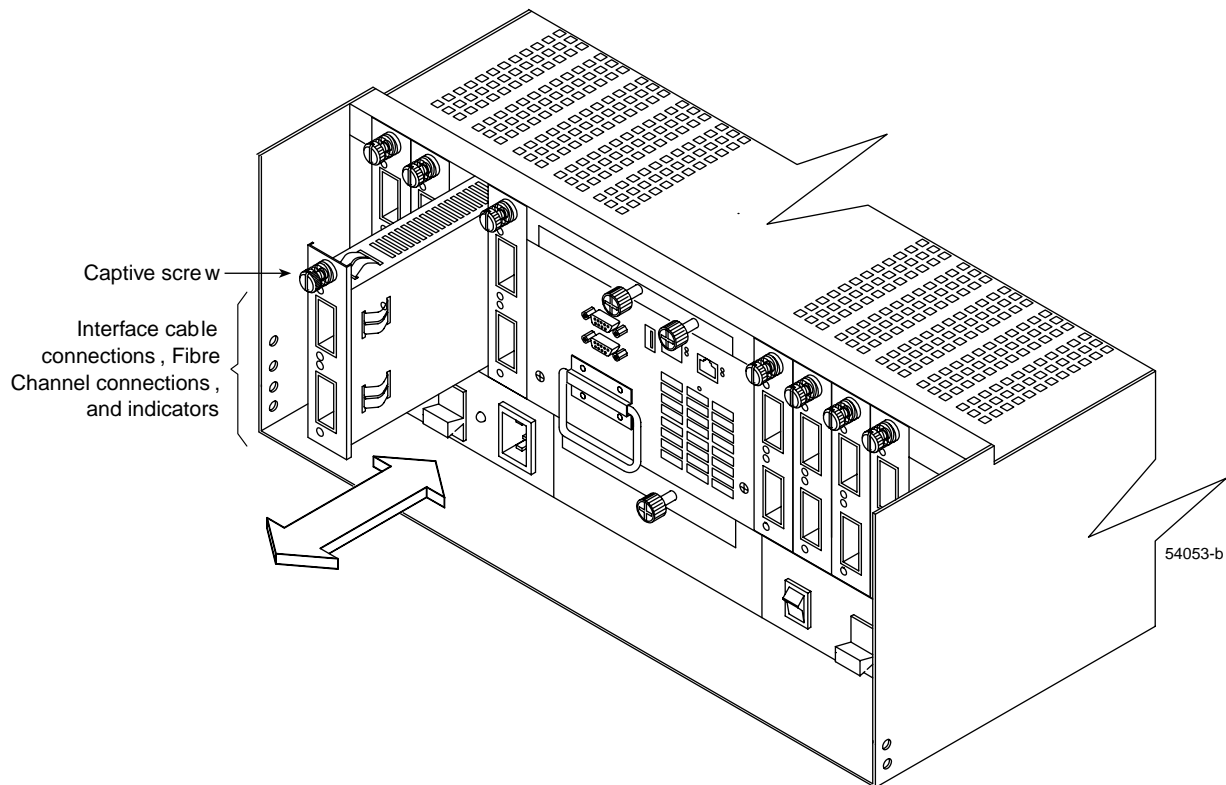

Figure 4-14 Removing and Installing a Minihub
6. Unfasten the captive screw on the minihub and remove it from the chassis (see Figure 4-14).